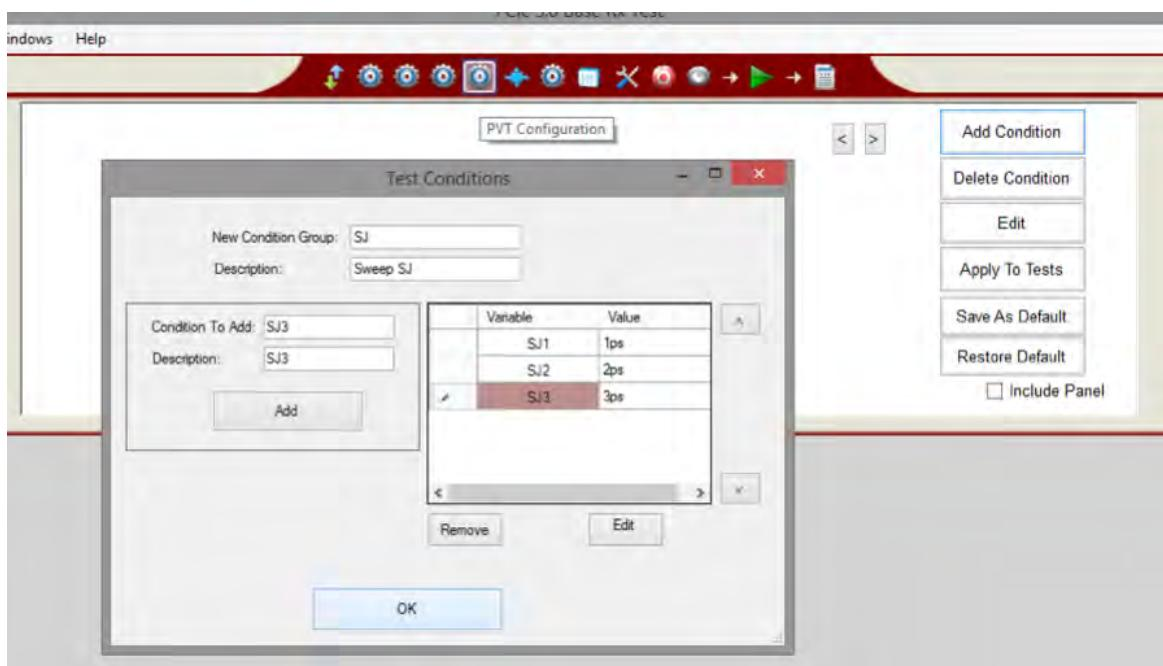
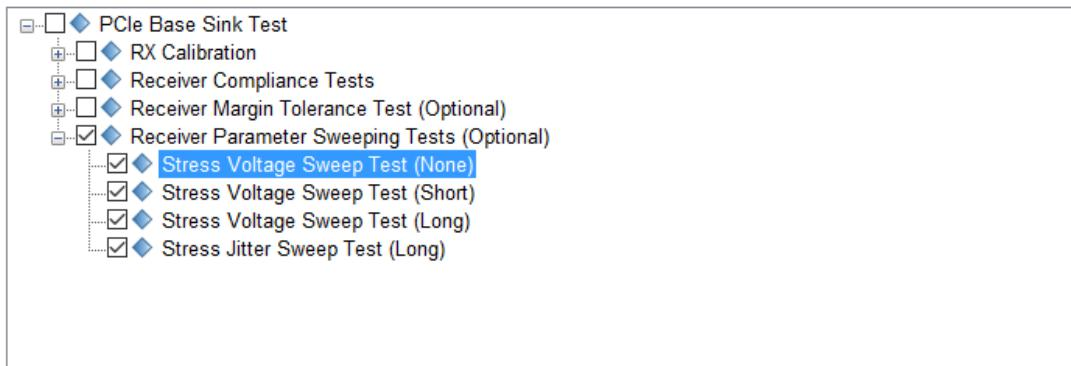

FIGURE 108 ADD FIRST PVT AUTOMATION PARAMETER
FIGURE 113. SELECT PVT TESTS TO RUN
2. Add a parameter to the selected test by selecting “Add Condition”. See Figure 108, which selects ‘SJ’ as the new condition group. No drop-down menu of allowed parameter names is provided. Refer to Table 5. A short description may be provided. This description, and the names of the individual step ‘Variables’ are all included in the test results Report.
7. Select the PVT tests to run (see Figure 113).
For example, considering the parameters and tests defined and selected in Figure 108 to Figure 113 will iterate as shown in Table 8. (Individual parameter step names are not shown.)